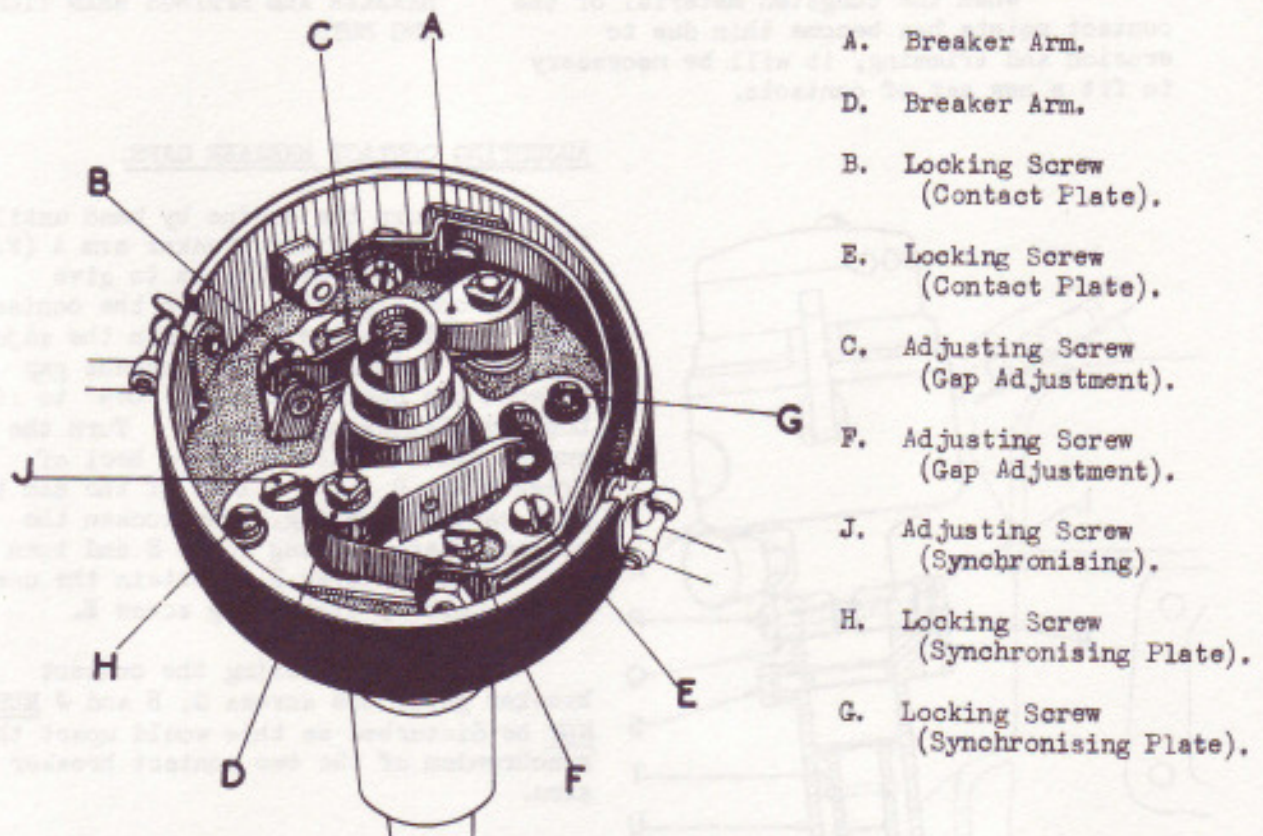
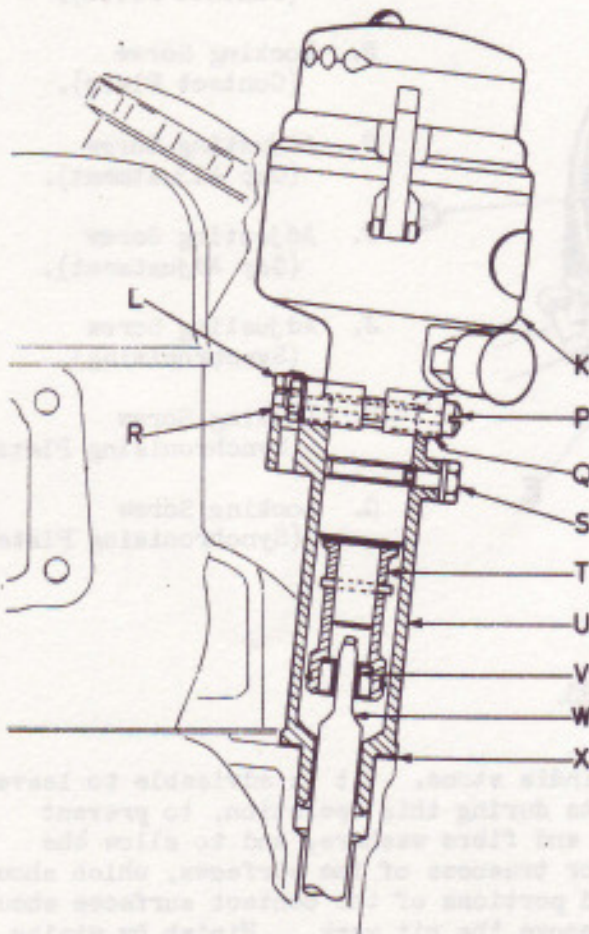

FIG. 23. LOW TENSION CONTACT BREAKERS.
FIG. 25. DISTRIBUTOR AND HOUSING IN POSITION.
Lift the Rotor Arm off the top of the spindle. Remove the small screws which attach the springs to their anchorage. Remove the two Contact Plate Locking Screws B and E (see Fig.23), then remove the contact plates complete with breaker arms. Screws G, H and J MUST NOT be disturbed.
Turn the engine by hand until the fibre heel of the breaker arm A (Fig. 23) is on a lobe of the cam to give maximum opening, then loosen the contact plate locking screw B and turn the adjusting screw C to obtain the correct gap between the contacts, i.e., .019" to .021". Lock by tightening screw B. Turn the engine again until the fibre heel of breaker arm D is on a lobe of the cam to give maximum opening, then loosen the contact plate locking screw E and turn the adjusting screw F to obtain the correct gap. Lock by tightening screw E.
- (a) If the screws G, H and J (Fig.23) have been accidentally disturbed.
Remove the distributor complete with the housing U (Fig.25) as follows:-
Slide the packing washer R (Fig.25) and the housing U over the mounting spigot of the distributor, making sure that the stud in the housing passes through the packing washer and the clamping plate-Q, then secure with the flat spring washer and the nut L. Replace the spring washer and setscrew S.
To check the timing, turn the engine by the above method until the distributor rotor arm approaches the No.1 cylinder firing position, then continue to turn very slowly until the points just break contact. The moment the points "break" contact, prevent any further movement of the flywheel and observe the position of the flywheel marking through the inspection hole. The IGN/TDC marking should be in line with the timing pointer. If this is not so, turn the engine until the marking does line up with the pointer (not forgetting that the engine must be turned in its correct direction of rotation only) and then slacken the distributor head clamping screw (P, Fig.25) and rotate the distributor body in an anti-clockwise direction until the points of breaker arm (A, Fig.23) just break contact. Tighten the clamping screw (P) and check the timing again. If necessary re-adjust and then re-check.